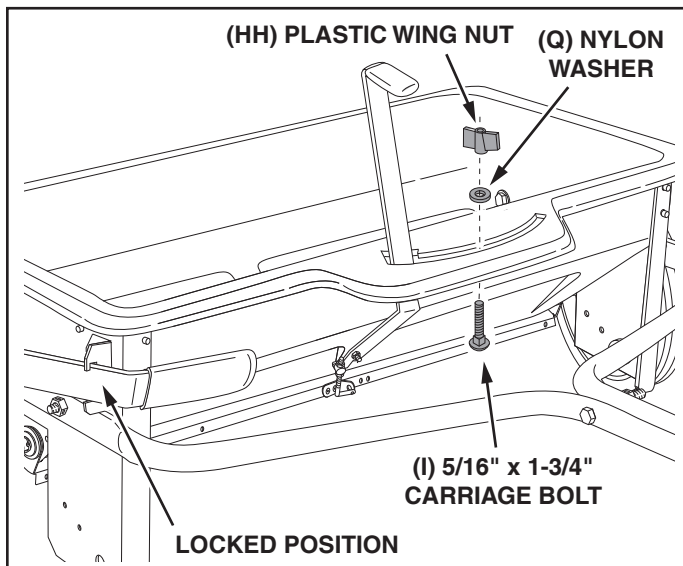

FIGURE 9
22. Insert the 5/16" x 1-3/4" carriage bolt up through the slot and secure it with a nylon washer and the plastic wing nut. See figure 9.
23. Move the lift handle into the locked position as shown in figure 9 and then tip the spreader back to rest on the wheels and the rear of the hopper.